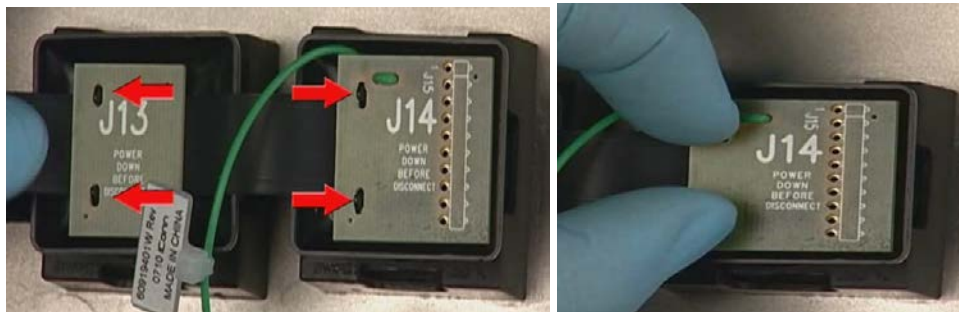

Figure 1
3. Disconnect the flex cable connector before removing the Dynamic Button from the panel. To do this you must pinch together the two legs on the Conan board then pull the flex cable connector out of the Conan board. See Figure 1 below.